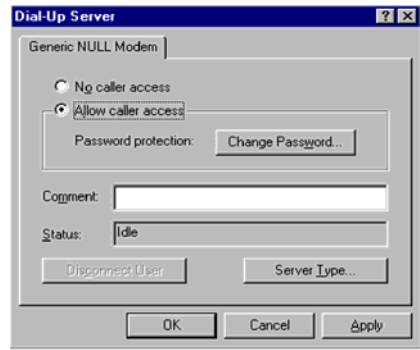

Figure 14 Dial-Up Server
5. In the **Dial-Up Server** window within the **Generic NULL Modem** tab select the **Allow caller access** option (See Figure 14).